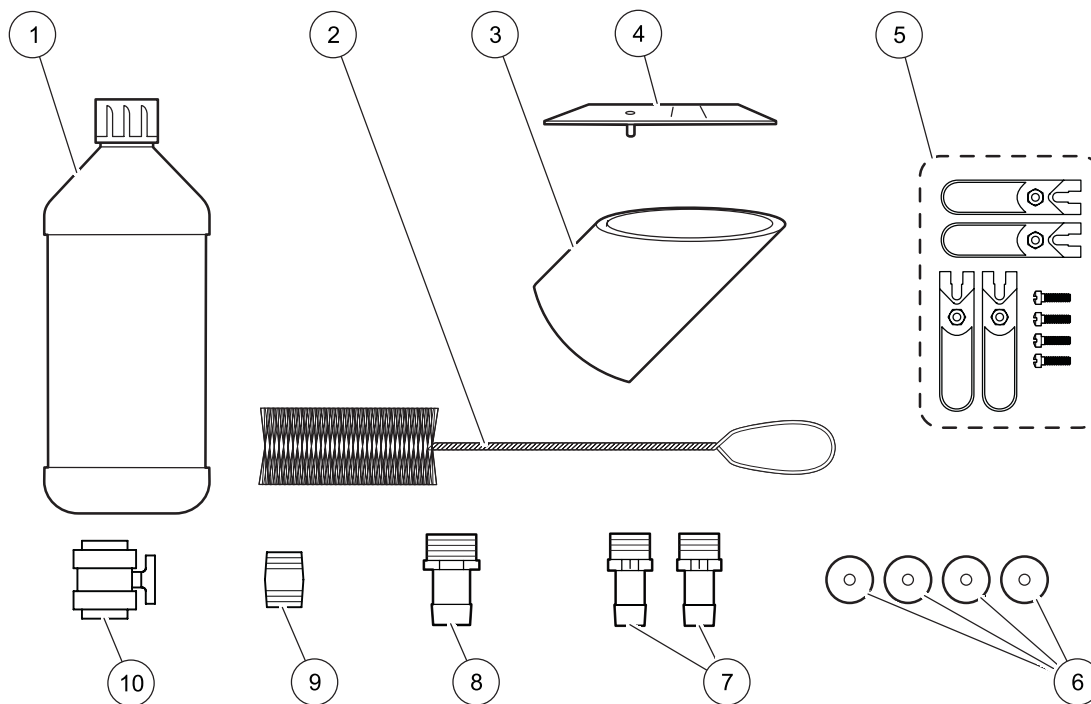

Figure 6 Installation kit items1
- Installation kit items (Figure 6)